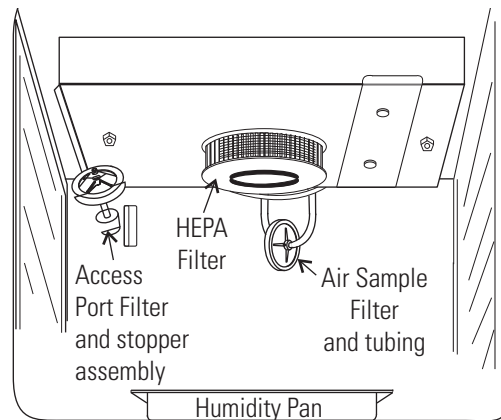

Figure 5-1. Component Locations
1. Remove the shelves, access port filter assembly, HEPA filter, air sample filter and tubing and the left and right duct sheets. Discard the HEPA filters and the access port filter assembly. See Figure 5-1.